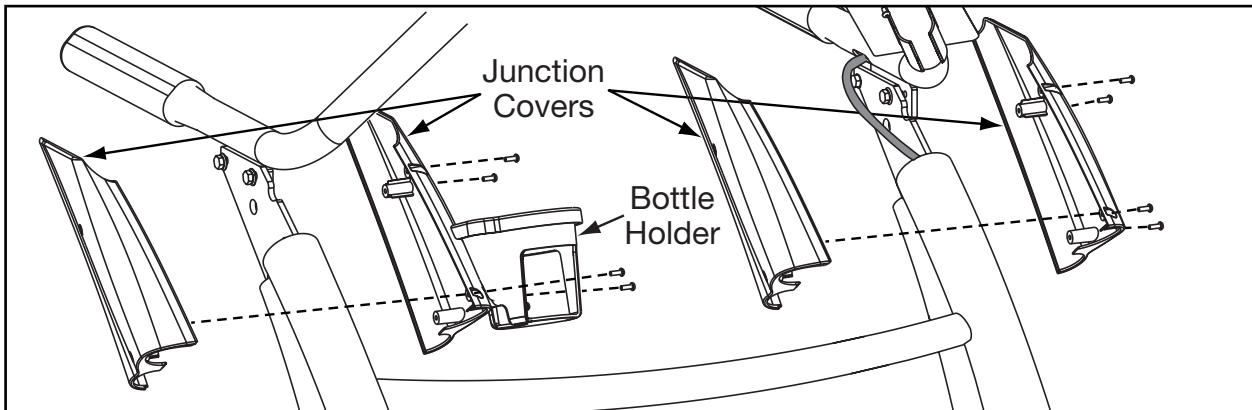

Figure 5
- A. Place the set of junction covers with the bottle holder over the right handlebar to upright junction and secure them with four Phillips head screws provided in bag 2. See Figure 5.
- B. Place the remaining set over the left handlebar to upright junction. Secure them with four Phillips head screws provided in bag 2. See Figure 5.